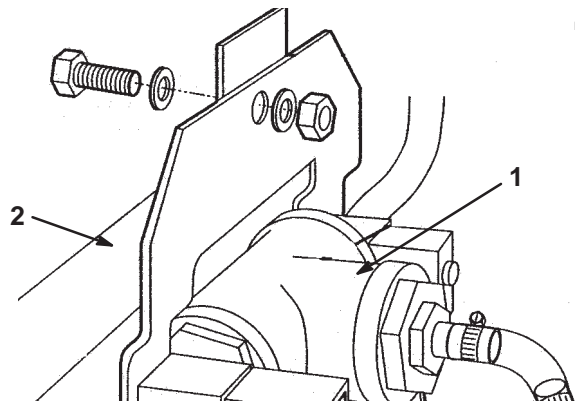

Figure 9
5. Mount the mixer assembly to the angle on the center boom assembly with a bolt (3/8 x 1 in.), flat washer, and a locknut (Fig. 9).